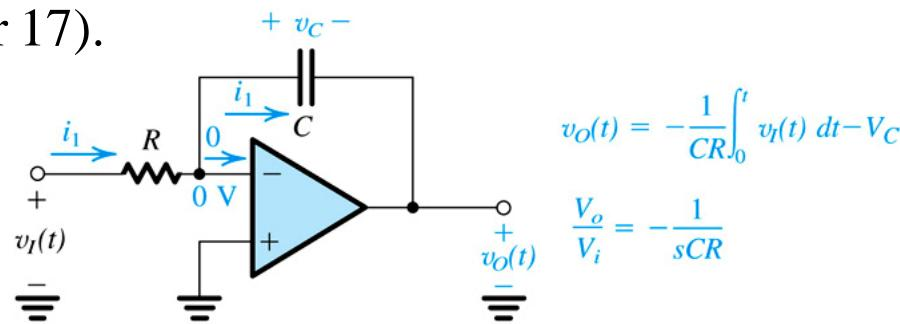

Figure 2.24
- The inverting Miller Amplifier of Figure 2.24 is a popular circuit, frequently employed in analog signal-processing functions such as filters (Chapter 16) and oscillators (Chapter 17).